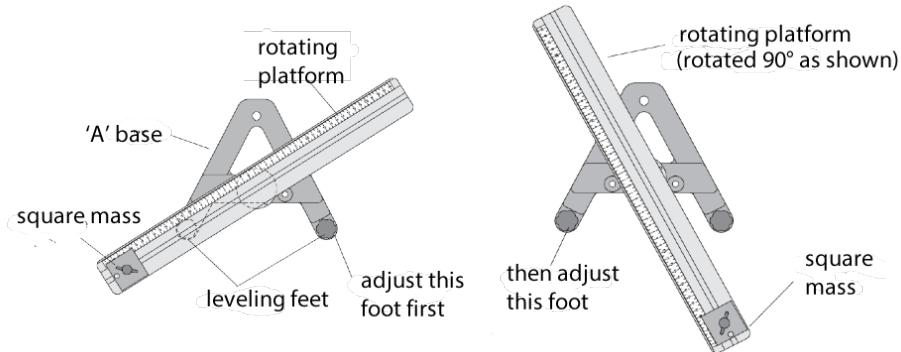

Figure 1: Diagram explaining the procedure for leveling the rotating apparatus.
2. Rotate the track until the clamp-on pulley end of the track is above the left foot of the “A” base. See the left side of Figure 1 (where the “square mass” in this case is the clamp-on pulley end).
3. Adjust the leveling screw on the side opposite the pulley until the end of the track with the clamp-on pulley is aligned over the leveling screw on the other leg of the base. See the left side of Figure 1.
4. Rotate the track 90 degrees so it is parallel to the right side of the “A” and adjust the opposite leveling screw until the track is stable in the parallel position. See the right side of Figure 1.